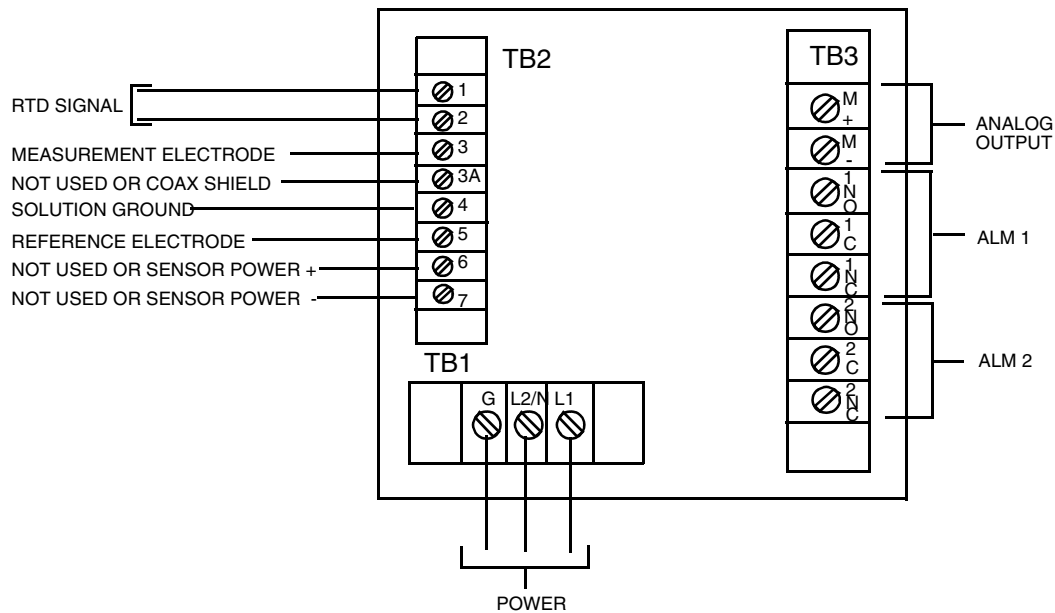

Figure 1. Plastic Enclosure Rear Panel Wiring for Power, Output, and Alarms
2. Connect ALM 1 and ALM 2 alarm wires to TB3 as shown in Figure 1. Failsafe operation requires connections to be made between contacts NC and C. For details see “Wiring of Alarms” on page 22.
3. Connect wires from external circuit to analog output terminals TB3 (M+) and TB3 (M–). Refer to Figure 1.
5. Connect sensor wires to analyzer terminal block TB2 as shown in Figure 1.
6. Connect power wires to terminal block TB1 as shown in Figure 1.